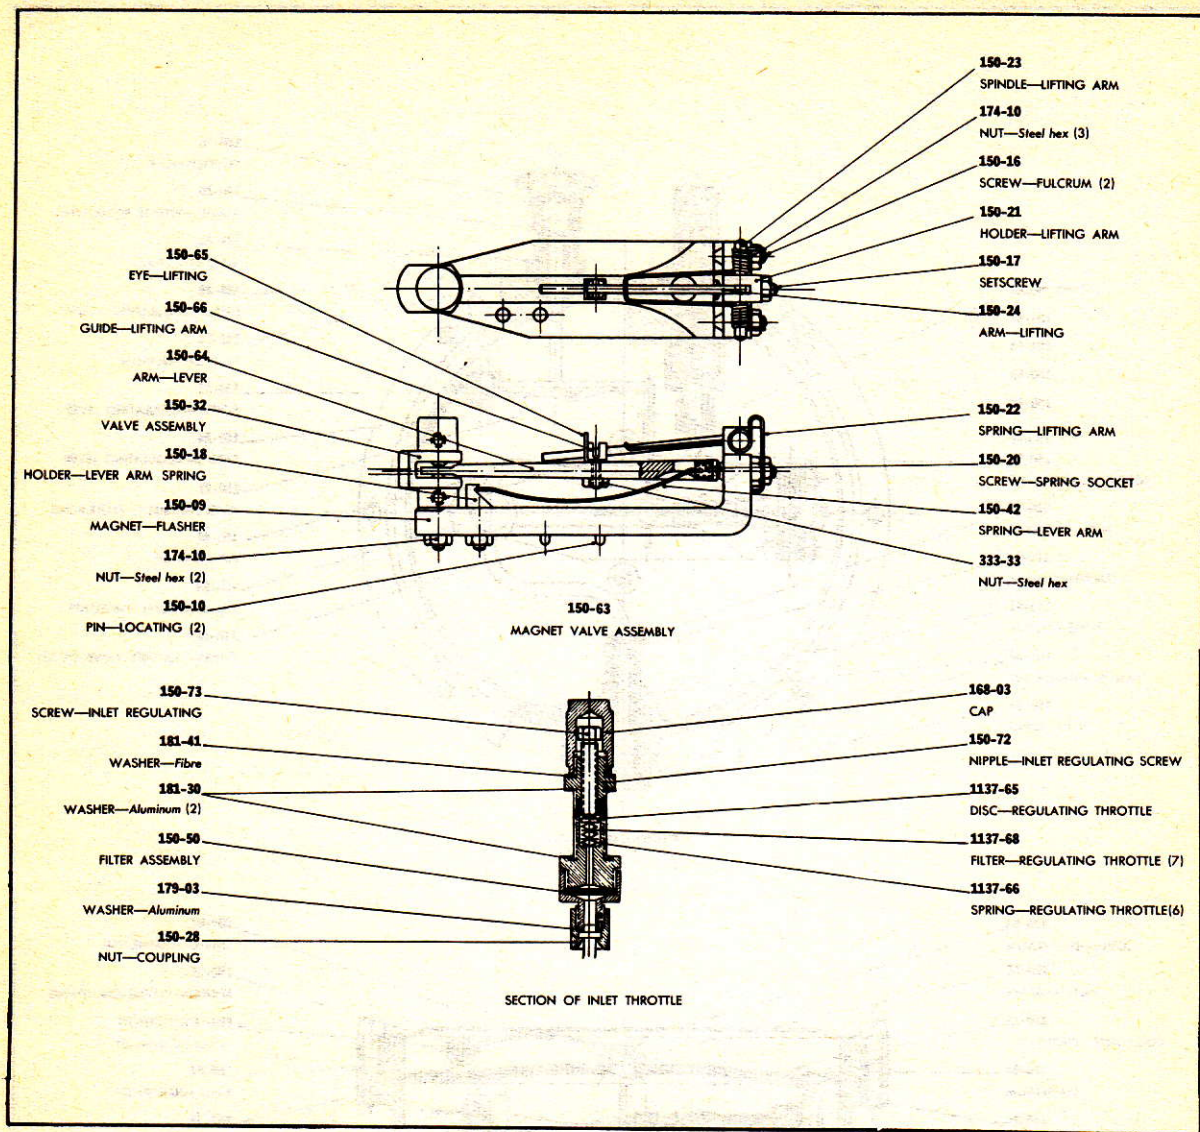

FIGURE 20-30.—130-mm. single flasher parts assemblies.
(1) In operation, the gas under cylinder pressure enters the chamber thru the inlet valve seat assembly, causing the leather diaphragm to expand and lift the lever arm; this transmits a horizontal motion to the spindle valve assembly, causes the valve end to press against the orifice of the valve seat assembly, ultimately shutting off the flow of gas at the adjusted pressure.
(2) A tension is maintained on the spindle assembly by a pressure actuating spring (151-06) and diaphragm spring (150-11). This tension is adjustable within certain limits.
(3) The shut-off point, as in all regulating valves, is in proportion to the resistant spring pressure, which as previously mentioned, is 20 inches of water pressure for this regulator. Gas is piped from the regulator to the flashing chamber above and to the pilot valve at the burner holder.
C. *The flashing mechanism* is housed in a chamber similar in construction to the regulator and is known as a magnet valve assembly. In construction, the assembly consists of a flat L-shaped magnetized steel valve bracket (part No. 150-09 of fig. 20-30) on one end of which is located a C-shaped valve assembly (150-32). The valve assembly consists of two valve seats threaded into the C-shaped holder so that the seats are opposite to and facing each other. The top valve is the inlet, and the bottom valve the outlet.